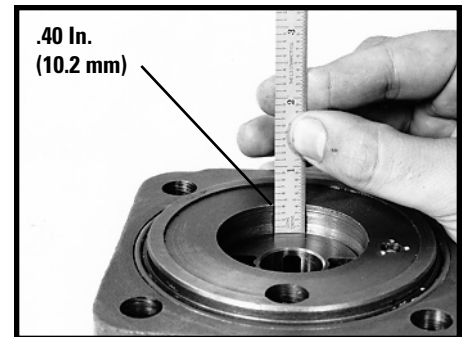

Figure 129
24. Locate the timing mark on the valve sleeve (15), a faint, punched mark on the chamfered edge of the sleeve or an indented mark on the front face of the sleeve. Make a corresponding mark on the front face with a felt marker if the edge is marked. SEE FIGURE 128. Assemble the valve sleeve (15), with the second thrust washer attached, into the valve housing (9), thrust-washer end first. When the valve sleeve is properly in place, the valve sleeve face should measure approximately .40 in. (10.2 mm) below the face of the valve housing. SEE FIGURE 129.